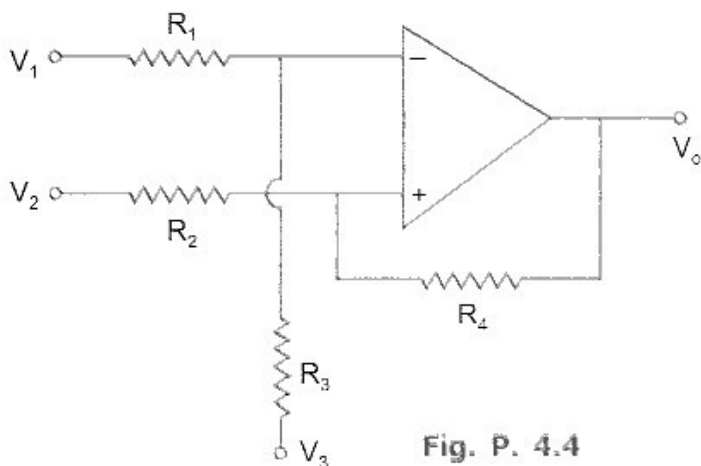

Fig. P. 4.4
4.4. In the circuit of Fig. P. 4.4, it can be shown that